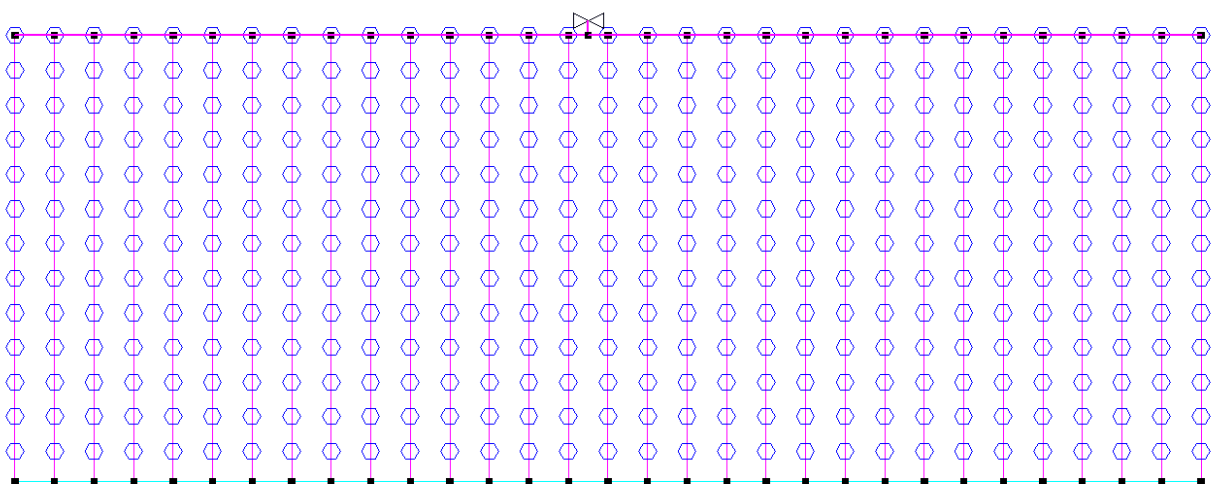

Figure SM 6
20. Because we selected “Determine Automatically” for the “Lateral Direction” we simply need to select the left-hand boundary to indicate the row direction. The laterals are now automatically drawn, with a submain at the top of the block and a central valve with a **1.5m** stub, as in Figure SM 6.